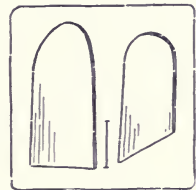

Fig. 150.
*Scrapers* are thin, flat pieces of steel. They may be rectangular, or some of the edges may be curved. For scraping hollow surfaces curved scrapers of various shapes are necessary. Convenient shapes are shown in Fig. 150. The cutting power of scrapers depends upon the delicate burr or feather along their edges. When properly sharpened they take off not dust but fine shavings. Scrapers are particularly useful in smoothing cross-grained pieces of wood, and in cleaning off glue, old varnish, etc.